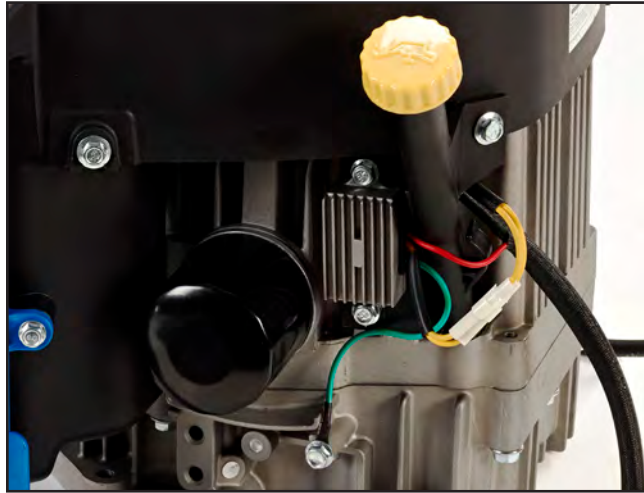

Figure 27
1. Install the voltage regulator to the dipstick tube if previously removed (Figure 27).